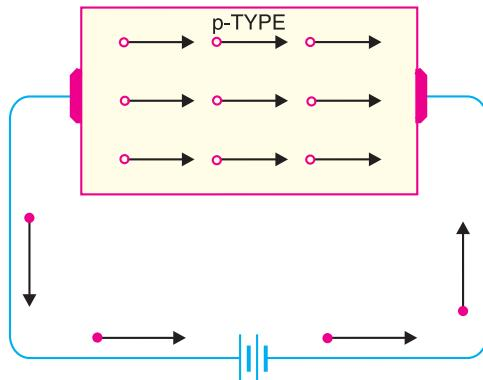

Fig. 5.16
**p-type conductivity.** The current conduction in *p*-type semiconductor is predominantly by holes *i.e.* positive charges and is called *p-type* or *hole-type conductivity*. To understand *p*-type conductivity, refer to Fig. 5.16. When *p.d.* is applied to the *p*-type semiconductor, the holes (donated by the impurity) are shifted from one co-valent bond to another. As the holes are positively charged, therefore, they are directed towards the negative terminal, constituting what is known as hole current. It may be noted that in *p*-type conductivity, the valence electrons move from one co-valent bond to another unlike the *n*-type where current conduction is by free electrons.